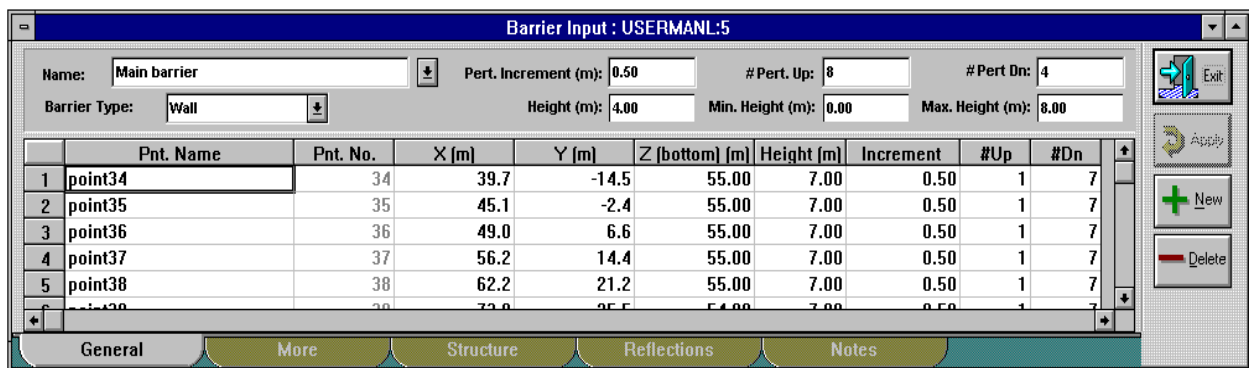

Figure 32. Barrier input: General tab.
2. Select  on the barrier input dialog (see Figure 32).